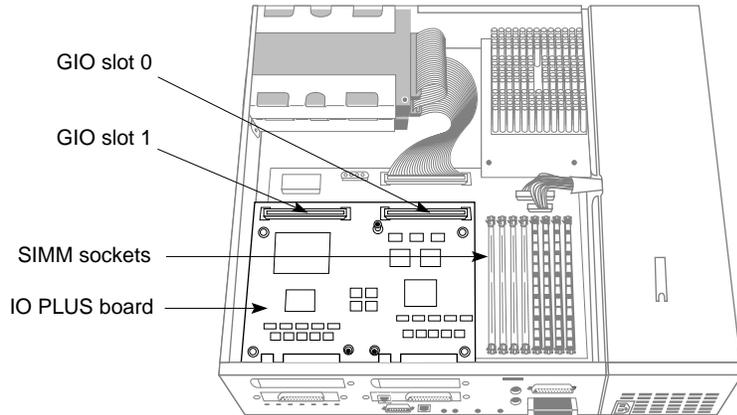

Figure 5-1 Locating the GIO Board Connectors (IOPLUS board shown)
Currently, direct memory access (DMA) is supported for GIO slot 0. (See Figure 5-1 to determine which GIO slot is 0.) All Silicon Graphics GIO options use DMA, and should therefore be installed on slot 0. GIO slot 1 only supports option boards that use programmed I/O. The only exceptions to this rule are the GIO32 SCSI and Ethernet E++ boards (any boards that use the HPC1.5 ASIC). Table 5-1 describes these dependencies.
5. Move the system or position yourself so that you are facing the rear of the system, as shown in Figure 5-1. You’ll connect the GIO option board to the IOPLUS board. You can install the GIO option board in either of the two available slots. However, before installing the board, read “GIO Slot Dependencies”.